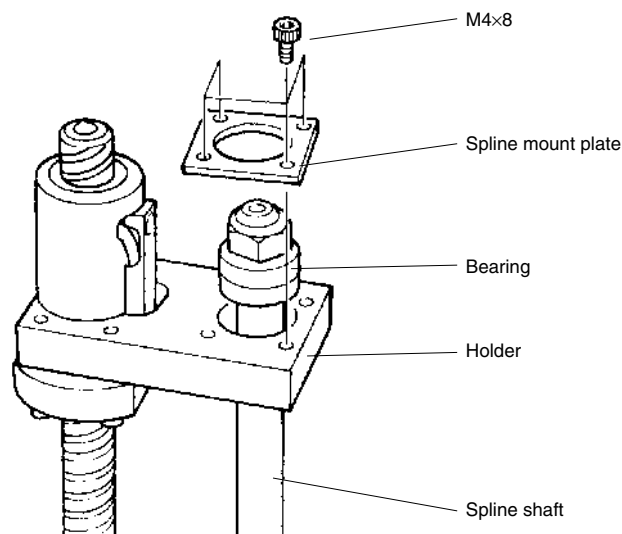
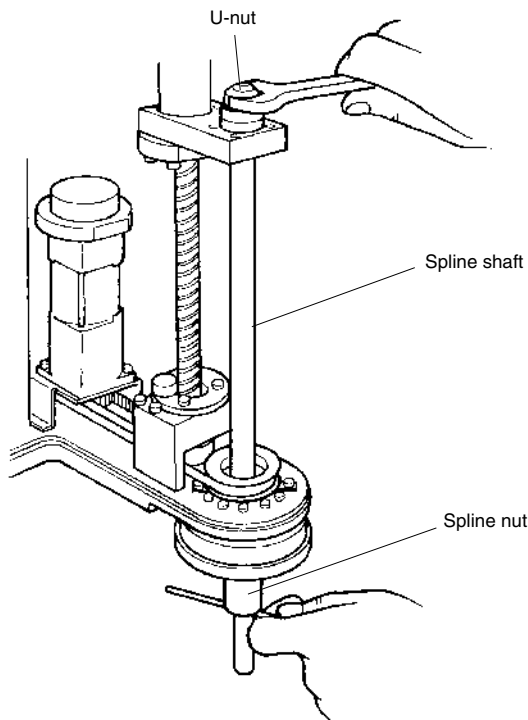

Fig. 5-11
Fig. 5-12
- 6) Remove the bolts (M4×8L, 4 pieces) securing the bearing to the upper end of the spline and remove the spline mount plate, spline and bearing from the holder. (See Fig. 5-11.)
- 7) While placing a steel rod or similar tool through the 5mm diameter hole at the lower part of the spline, loosen the U-nut at the top of the spline with the wrench, and remove the bearing. (See Fig. 5-12.)
- 24) Insert the spline into the holder, fit the bearing onto the spline and tighten the U-nut to secure the bearing. (Utilize the $\phi 5$ through-hole when tightening the U-nut like you did to loosen it.) (See Fig. 5-11 and Fig. 5-12.)